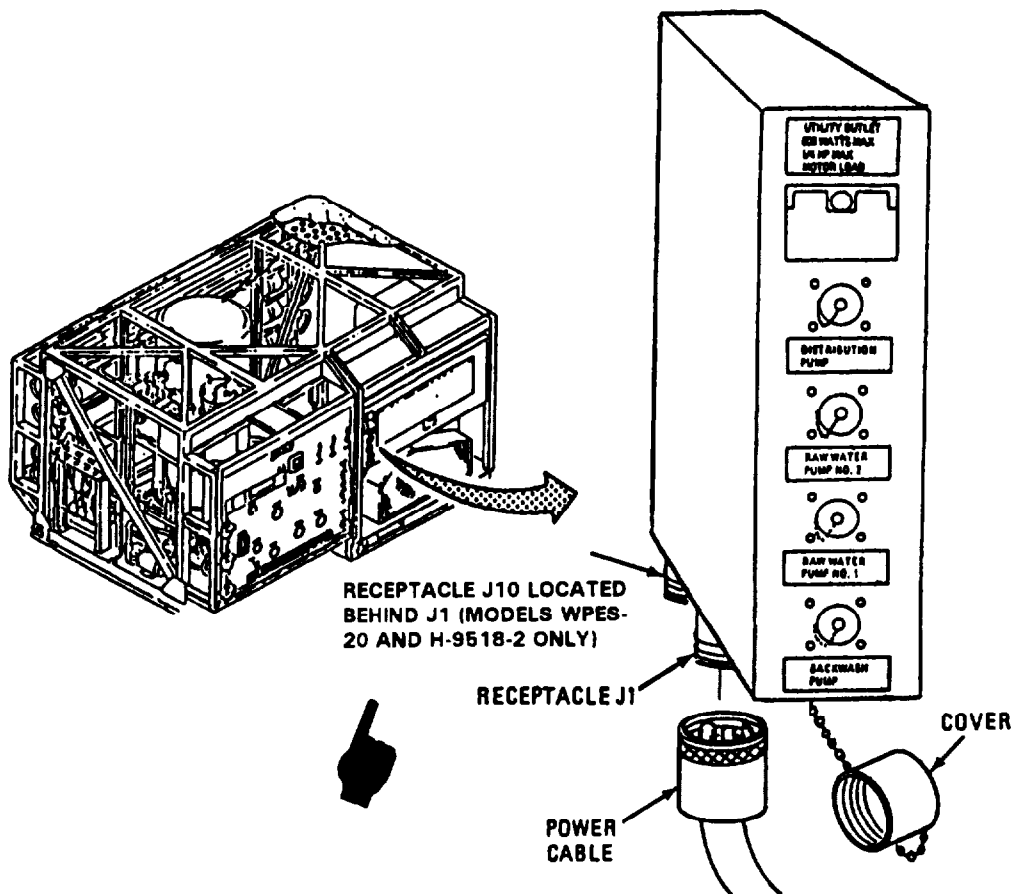

Figure 2-44. Power Cable Connection.
V. Connect Power Source to ROWPU. Refer to Figure 2-44.
- (1) (Models WPES-20 and H-9518-2) Remove cover from power receptacles J1 and J10 on bottom of junction box. Connect two power cables from power source to receptacles J1 and J10.
- (2) (Model WPES-30 and H-9518-3) Remove cover from power receptacle J1 on bottom of junction box. Connect power cable from power source to receptacle J1.